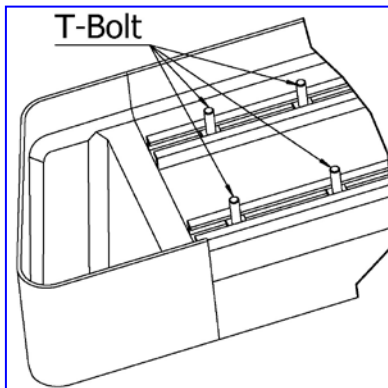

Fig 11. Slide 6mm T-Bolts into the bottom Channel
8	<p>Once all (3) Brackets have been installed, Select a Running Board. Slide (3) 6mm T-Bolts into each bottom channel (Figure 11).Carefully position the Running Board onto the Mounting Brackets. Attach the Running Board to the Mounting Brackets with (6) 6mm T-bolts,(6)6mm flat washers and (6)6mm lock nuts, (Figure 12). Do not tighten hardware at this time.</p>